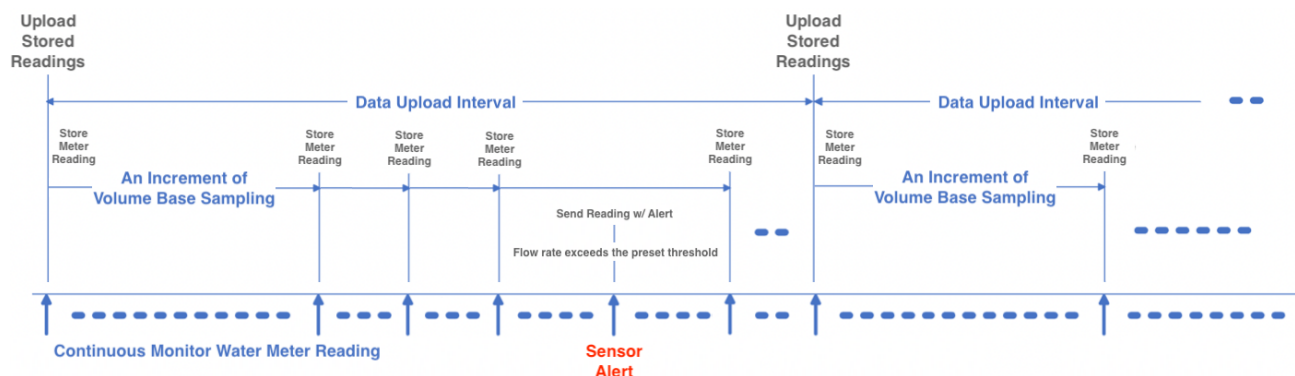

Figure 6. Volume Base Upload
- Refer to Figure 6, if *Volume Base Upload* is selected (*Time/Volume Based Upload* = 1), the MIU stores the water meter readings at each increment of the *Volume Base Sampling Size*.